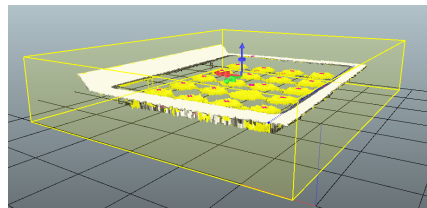

Figure 36: Region of interest for **Shape** tool
6. Move and resize the region of interest for the **Shape** tool to cover the chocolate box. Leave some extra space between the object and the region borders. See figure 36.